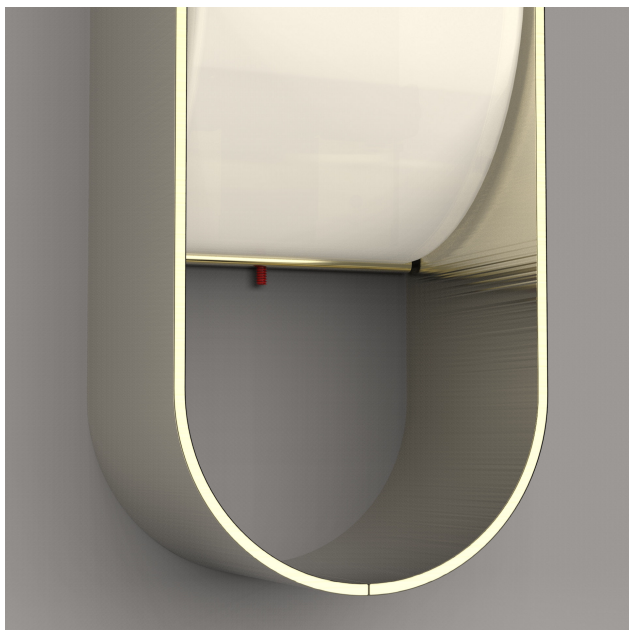

Figure 3
- Using the provided Allen Wrench, tighten set screw near underside of glass shade. (Figure 3)